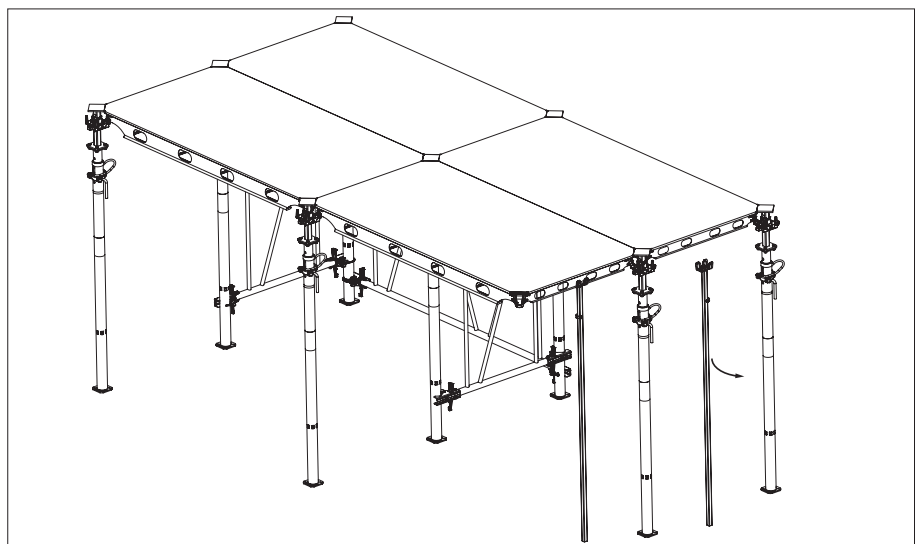

Fig. A5.14
7. Once the prop is set into position, the first shuttering aid can be removed while the second shuttering aid supports the panel further. (Fig. A5.14)